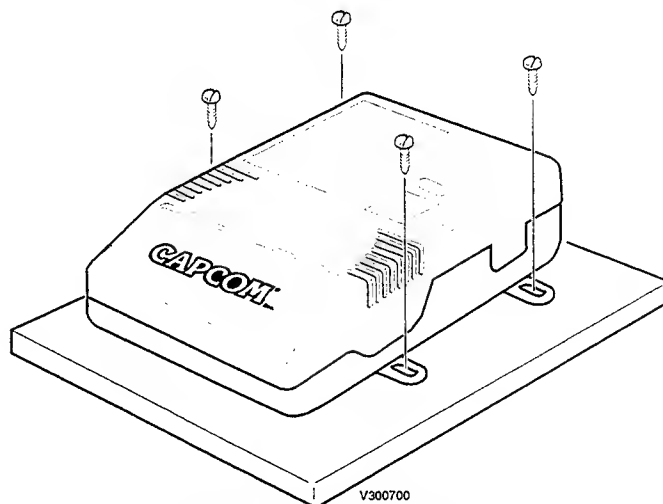

Figure 12: Case Mounting
24. Using the supplied wood screws, fasten the game cartridge case to the control panel shelf, as shown in Figure 12.